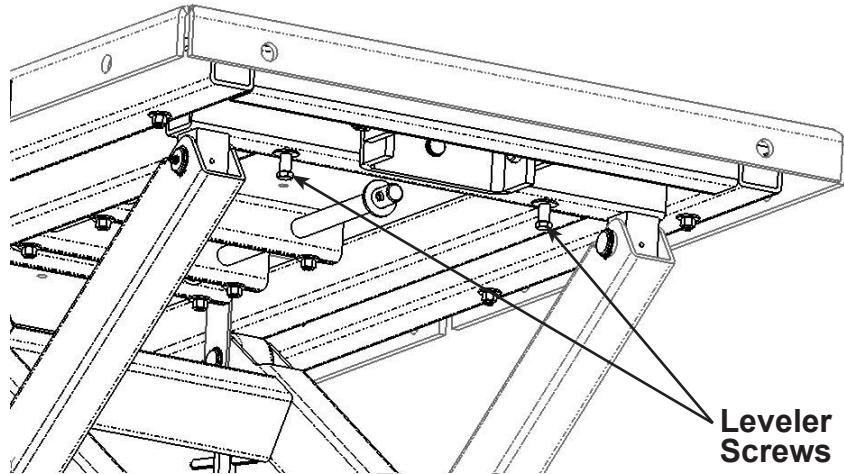

Figure 2
1. Insert leveler screws into sockets (approx. 5 turns). Leveler screws should not project above steel tube or contact platform underside when not in use. See Figure 2 of “Stabilization Feature” section.
If lift is to be used as a stationary work surface for servicing components, two leveler screws (see Figure 2) have been added to help stabilize the platform.